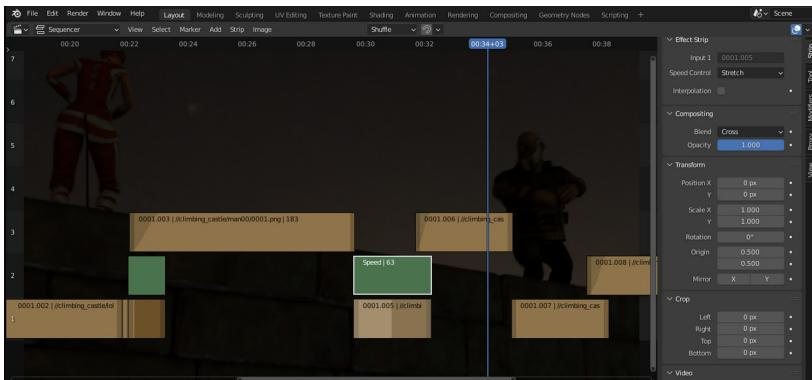

Figure 12-10 The Video Sequencer
- When you have all the footage you need, create your final masterpiece using the Video Sequencer as shown in Figure 12-10. There are many controls available here, and it's hard to do more than scratch the surface in this exercise, however two things may be useful. The first one you may want to use is the fade effect which you can control using the right Sidebar in the Compositing section. You can set keyframes for the Opacity in the same way you have used to animate other Blender values. The second one is to slow down a strip, or part of a strip. For this you need to click Add Effect Strip Speed Control from the area menu, again, there are many controls available in the Sidebar.